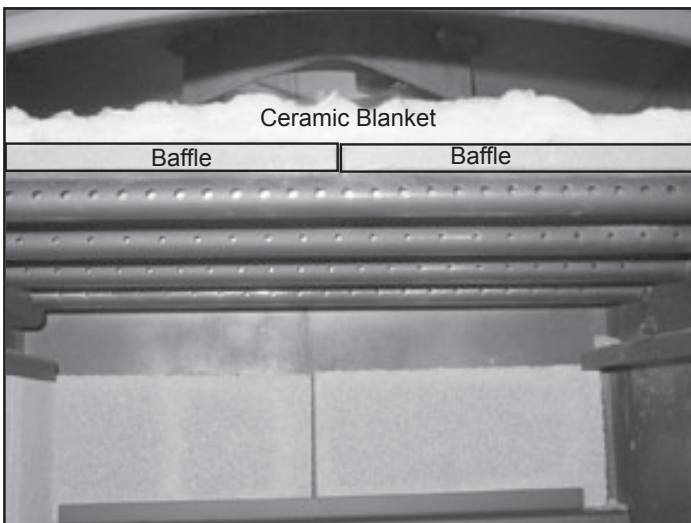

Figure 27.2
4. Slide the tube channel assembly to the left as far as it will go and lower the right side. Remove the baffle boards and ceramic blanket together (**Figure 27.2**).